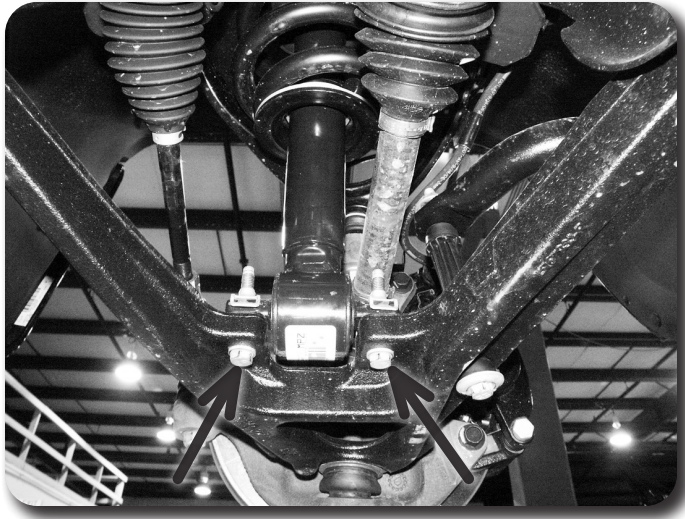

Figure 8
17. Support the lower control arm with a jack. Remove the lower strut mount bolts Figure 8. Save bolts.